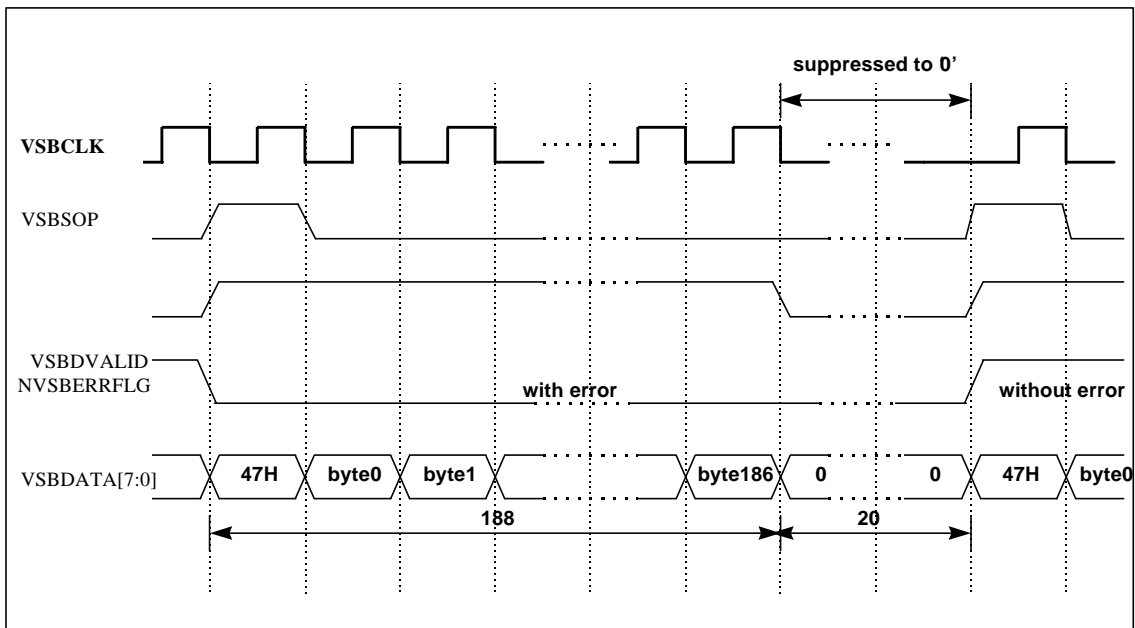

Figure 6.6.12 I/F to Transport Demultiplexer when Register64[0](Vsbclk_sup) is set to '0'
1) the VSBCLK signal is suppressed to '0' during VSBDVALID='0' interval. See Fig. 6.6.12.